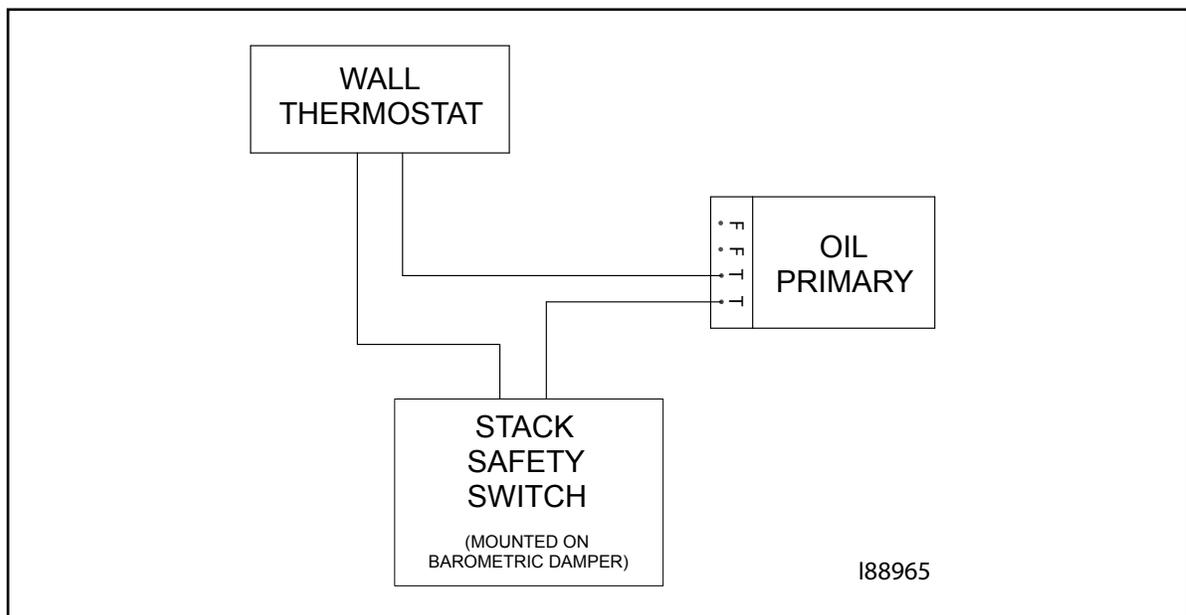

Figure 4Q - Stack Safety Switch Wiring Diagram
5. Install the wall thermostat according to the instructions provided in the *Operator's Manual, Section 4*. Wire the wall thermostat and stack safety switch in series as shown in Figure 4Q. Install the wire so that it is secured away from any hot surfaces.